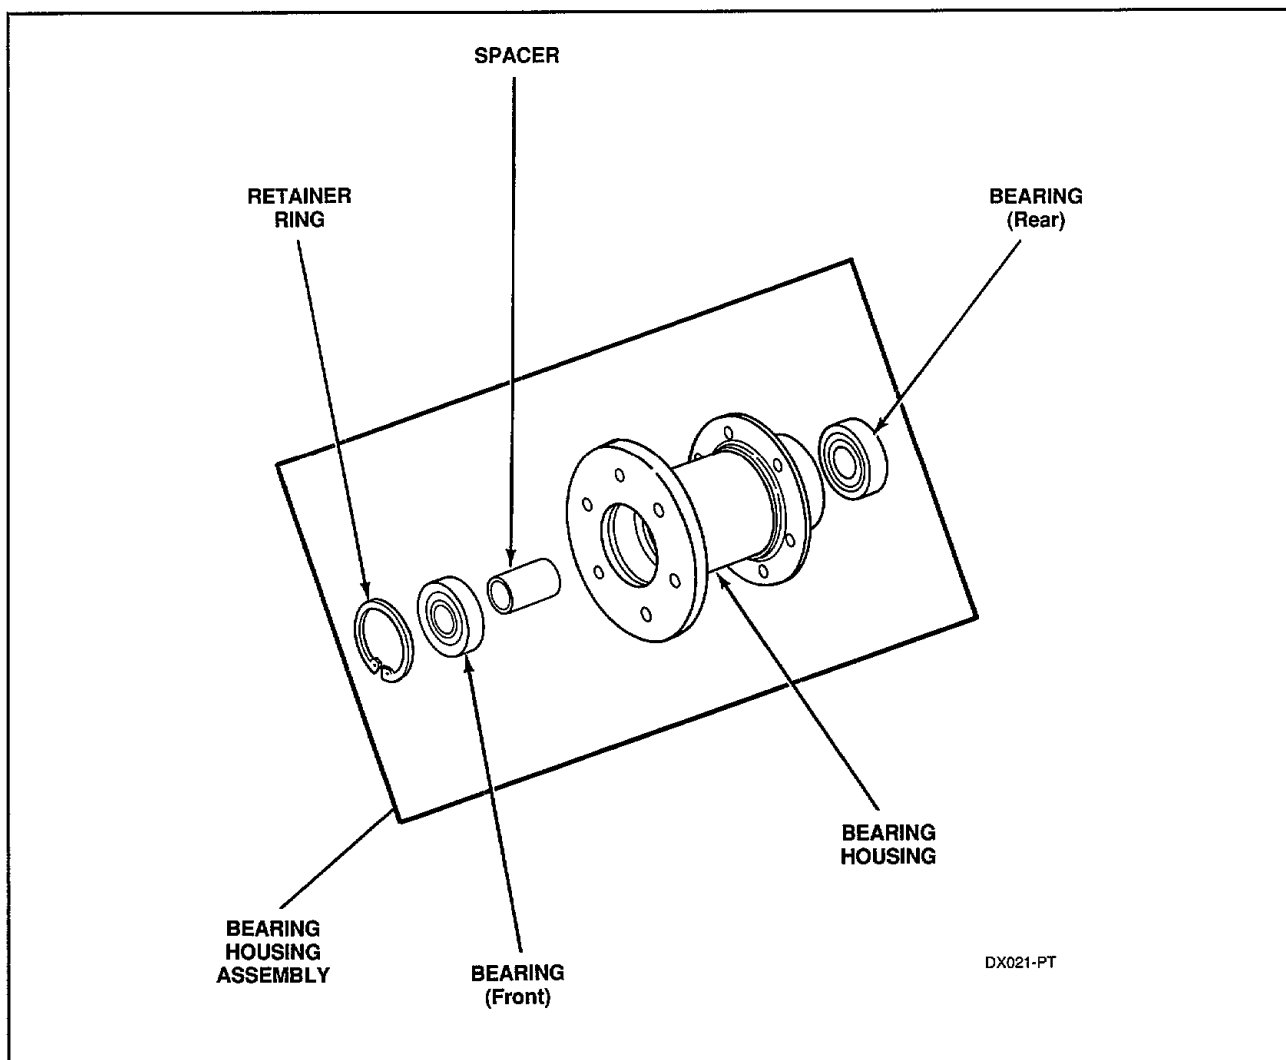

Figure 24
NOTE: Bearings are a press fit in the bearing housing and can be driven out of the housing, using a hammer and a piece of hardwood dowel. The front bearing is held in with a retainer ring which must be removed first before attempting to remove the front bearing, *Figure 24*.
- e. When installing new bearings into the bearing housing, first press the front bearing into the housing until it bottoms. Then reinstall the retainer ring in front of the front bearing, *Figure 24*.
- f. With the bearing spacer in place, press the rear bearing into the housing until the spacer is snug between the two bearings, *Figure 24*.